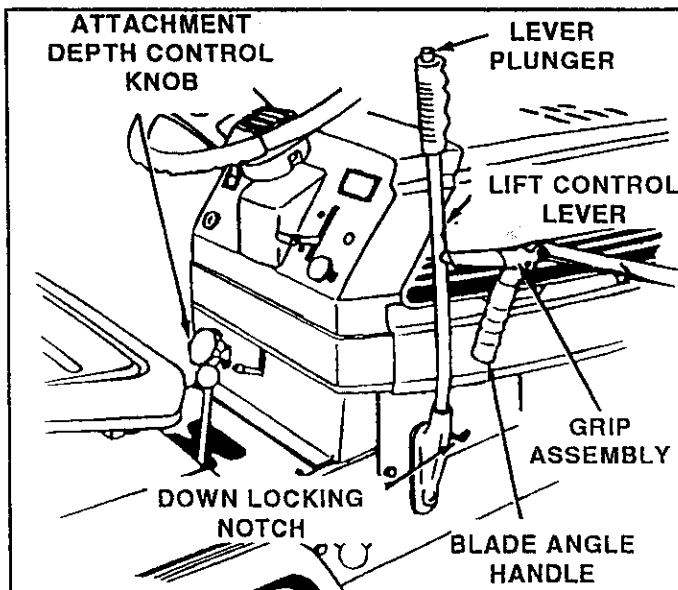

FIGURE 28
17. Move attachment lift lever all the way forward and lock in position. See figure 28 on page 10.
Located on right hand side of tractor. See figure 28. Move lever forward to lower dozer blade. Pull lever back to raise dozer blade. Pulling lever all the way back locks dozer blade in up position.
Located on top of lift control lever. See figure 28. Pull back on lift control lever and depress plunger to release.
Adjust lift control lever movement with attachment DEPTH CONTROL KNOB (see figure 28) for maximum movement between locking notches and to prevent lever from locking in the down lock notch. See figure 28.
Located on right hand side of tractor. See figure 28. NOTE: Always raise dozer blade and lock in "up" position before moving angle control handle. Depress grip assembly to release blade angle lock and push/pull angle control handle forward to move dozer blade angle to left, center, right and release grip to lock.